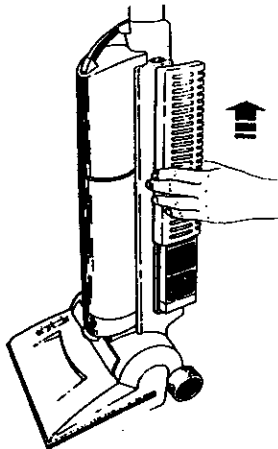

FIGURE 26
- Slide the Filter Cover up the side of the Air Duct and remove. (Figure 26)